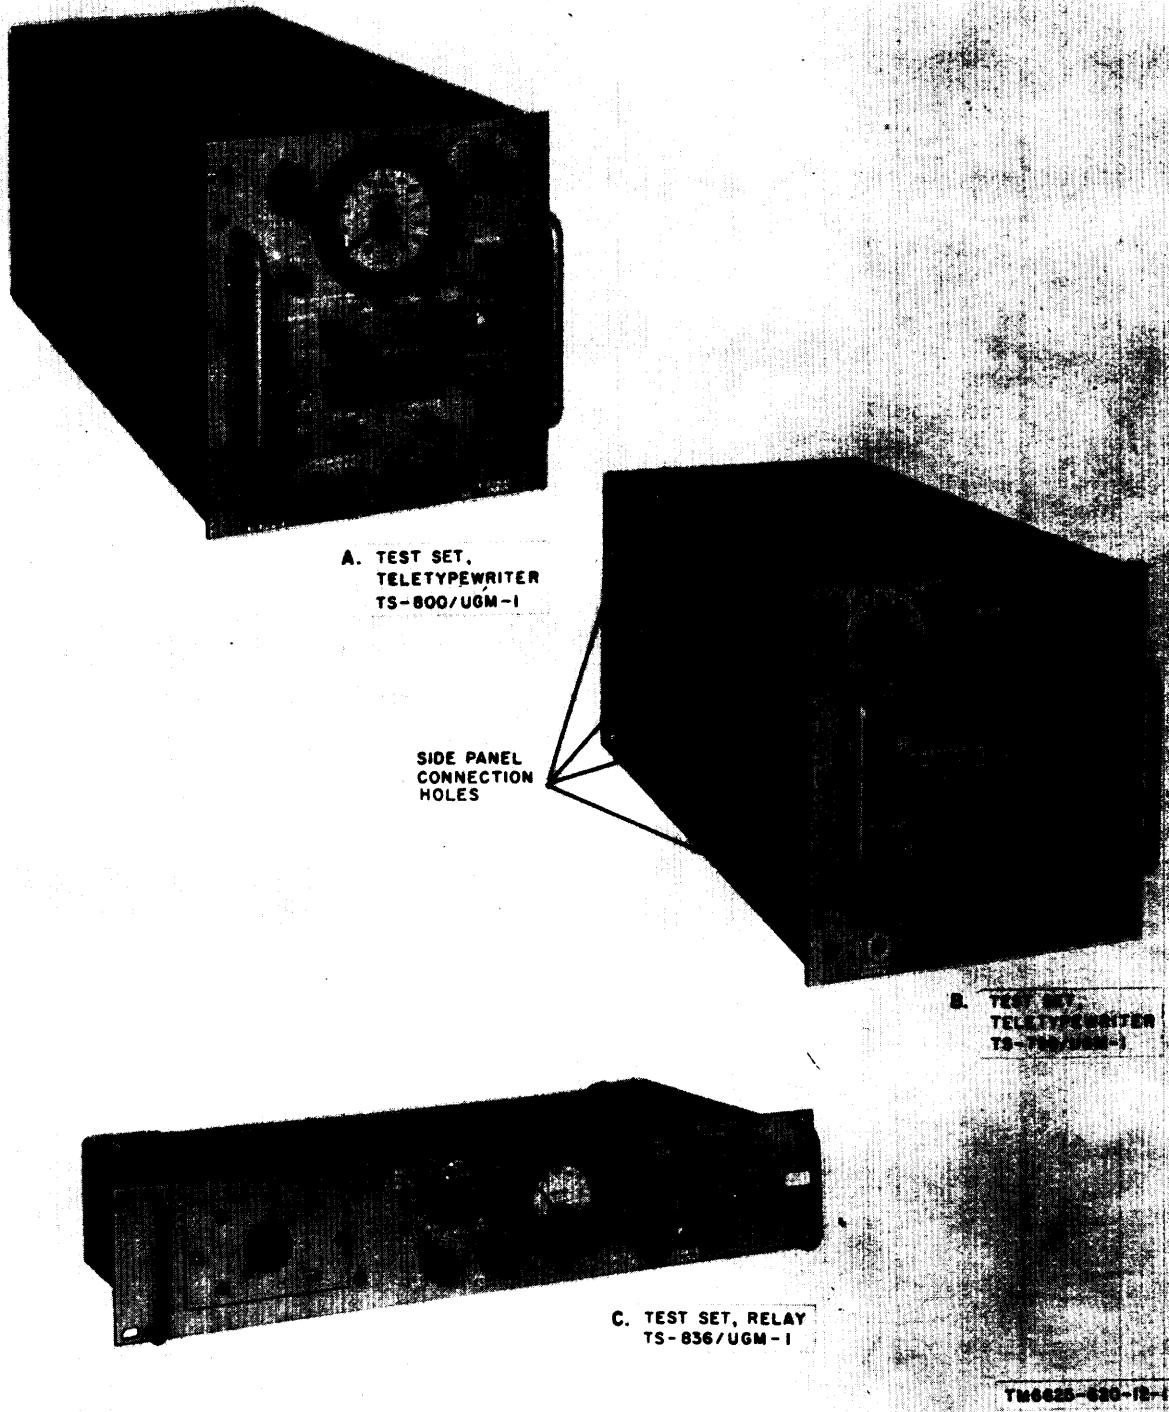

Figure 1-1. Test Set, Teletypewriter AN/UGM-1, less running spares and removed from transit cases.
This manual describes Test Set, Teletypewriter AN/UGM-1 (fig. 1-1) and provides instructions for the installation, operation, and operator and organizational maintenance of the equipment. It includes instructions for operation under usual and unusual conditions and cleaning and inspection of the equipment; it includes a maintenance allocation chart, a basic issue items list, and instructions on replacement of parts available to operator and organizational maintenance personnel.
*a.* Test Set, Teletypewriter AN/UGM-1 (fig. 1-1) is composed of three digital test equipments that provide facilities for comprehensive analysis of telegraph signals and relays to determine the types and magnitudes of signal distortion present.
The AN/UGM1 (fig. 1-1) consists of three self-contained units. In normal application, the only connections between the units are the front-panel signal connections from the relay test set to the distortion analyzer. The three units are described in *a* through *c* below.